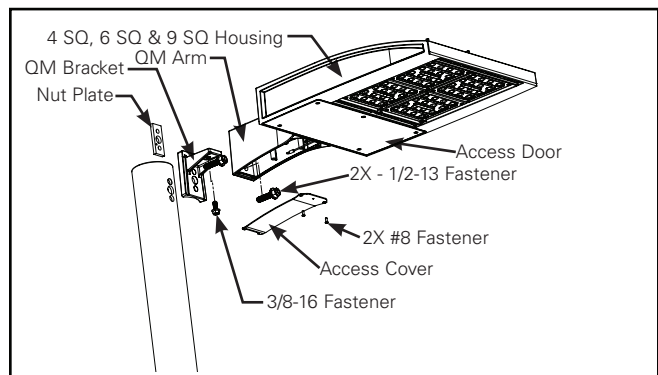

Figure 2.
Standard Pole Mount Arm with Quick Mount Adapter (QM) (Fig. 2)